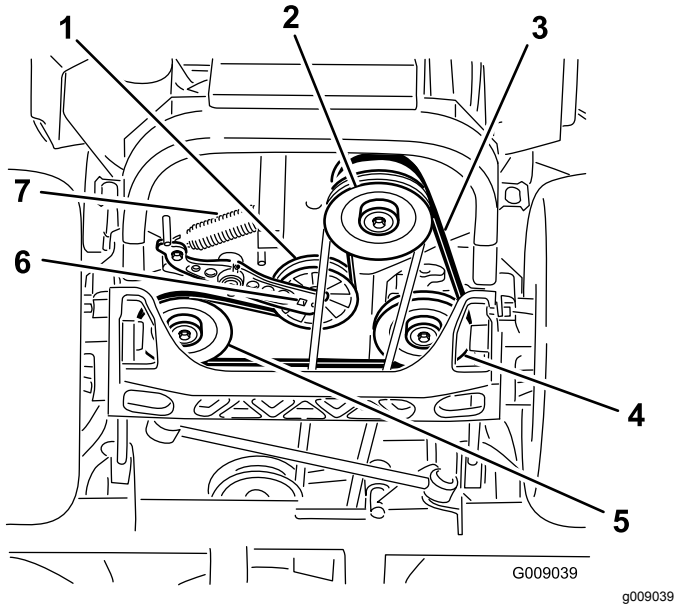

Figure 77
4. Raise the machine and support it with jack stands (Figure 77).
5. Use a ratchet in the square hole in the idler arm to remove the idler spring (Figure 77).
6. Unhook the idler spring from the frame (Figure 77).
9. Using a ratchet in the square hole in the idler arm, install the idler spring to the frame (Figure 77).